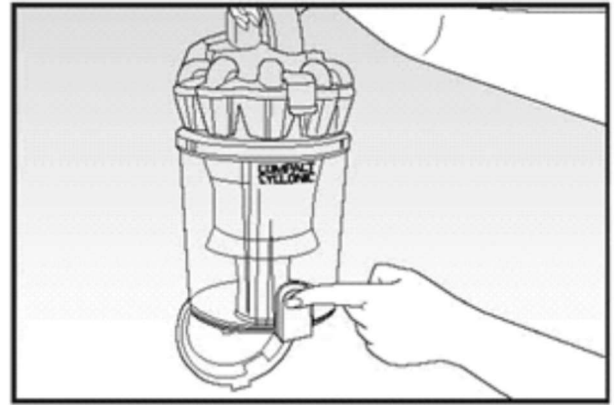
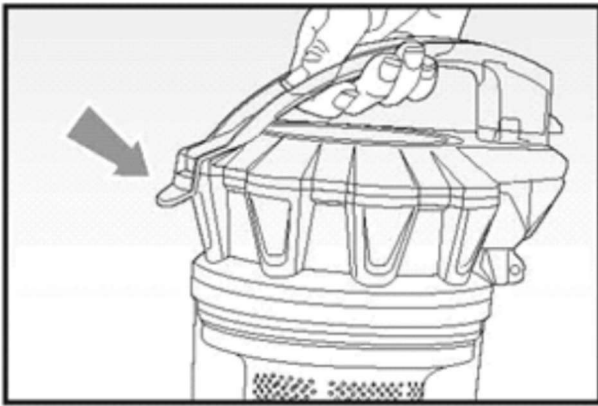
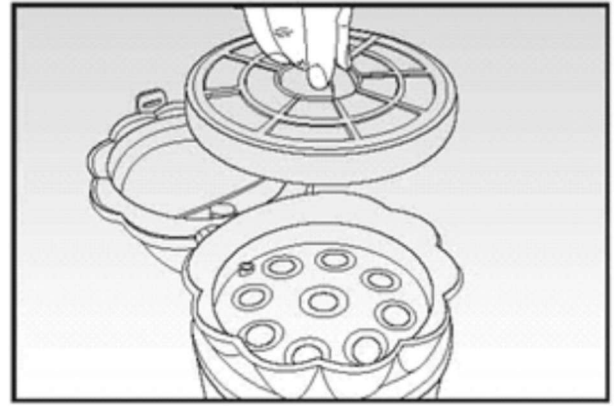

Fig. 7
Fig. 8
Fig. 9
- Empty the dust container (A), opening the lid with the release button (Fig. 7). **IMPORTANT:** To empty the container and prevent any dirt from leaking out, we recommend first placing it inside a plastic bag and emptying it there.
- To clean the container (A) fully, it is necessary to disassemble it completely, as described here below:
- Press the appropriate button and open the lid of the container (A) (Fig. 8); extract the filter beneath (Fig. 9);